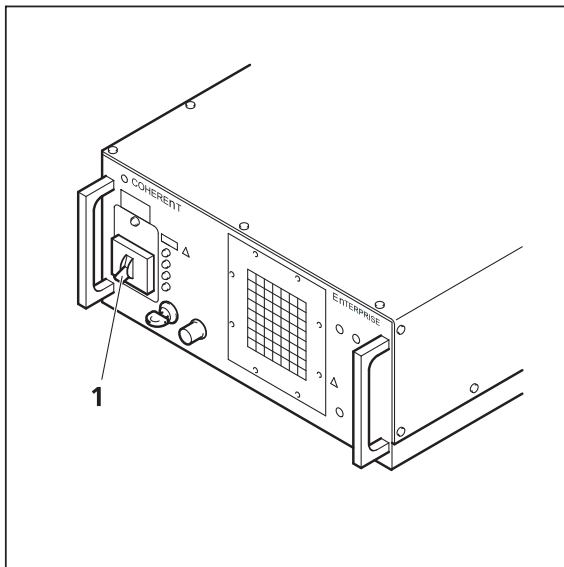

Fig. 2 Power supply of UV-Ar laser
- If the UV laser is required, switch it on via the toggle switch (Fig. 2/1) on the power supply.